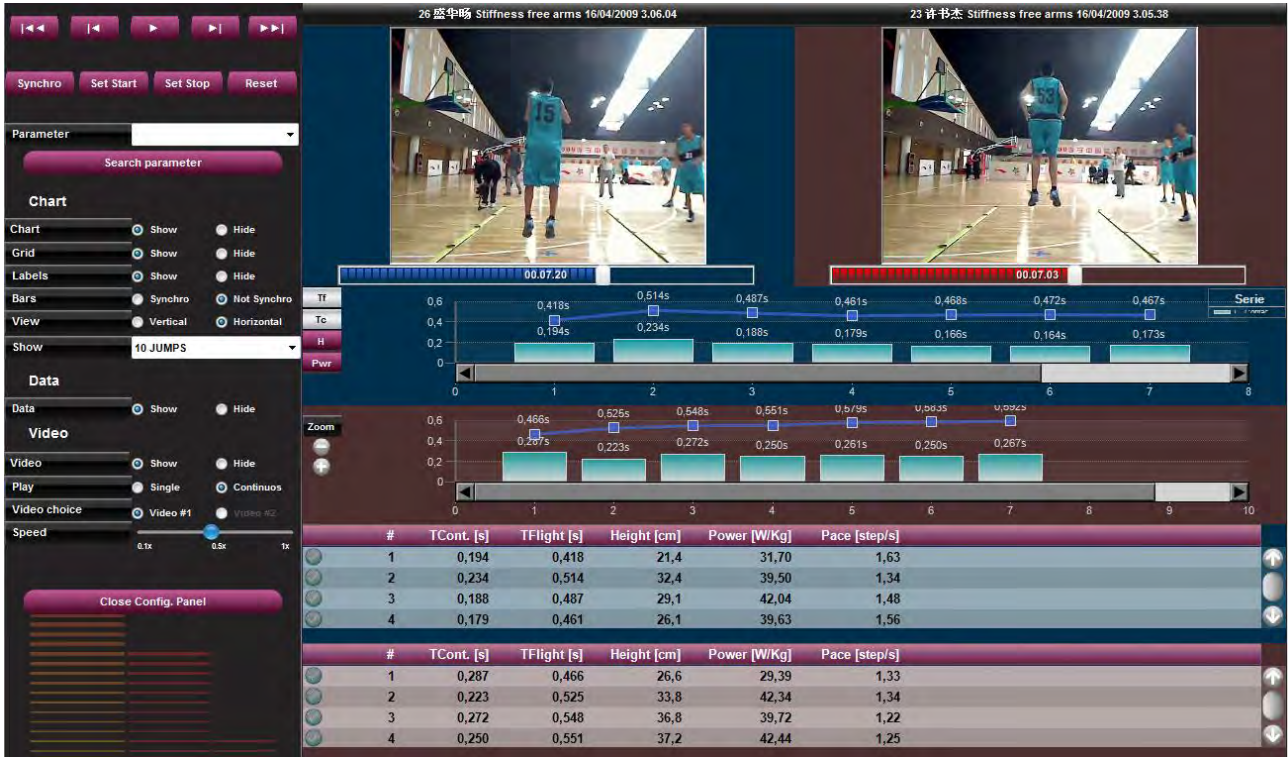

Figure 86 – Compare
- **View:** data can be viewed horizontally (as in Figure 86 – Compare) or vertically. In the latter case the numerical values are scrolled horizontally.